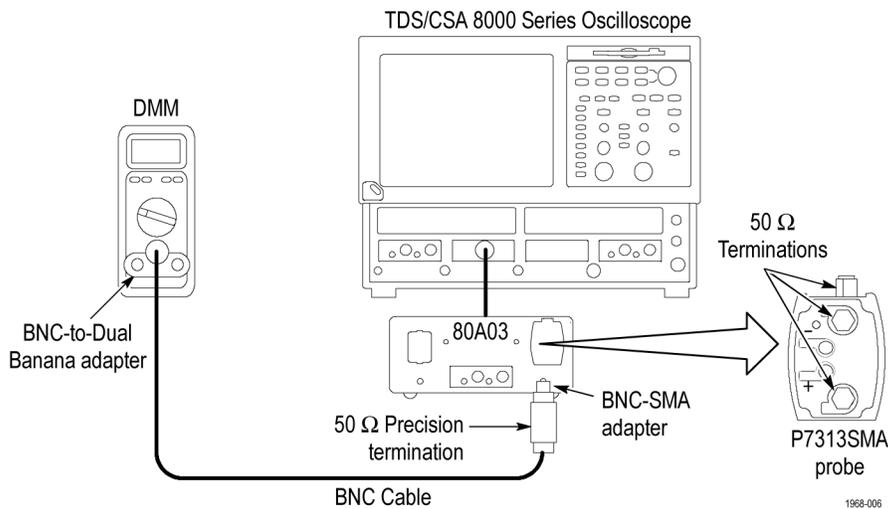

Figure 26: Setup for the output offset zero test
1. Connect the equipment as shown. (See Figure 26.)